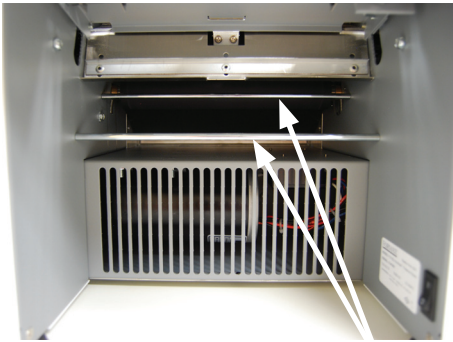
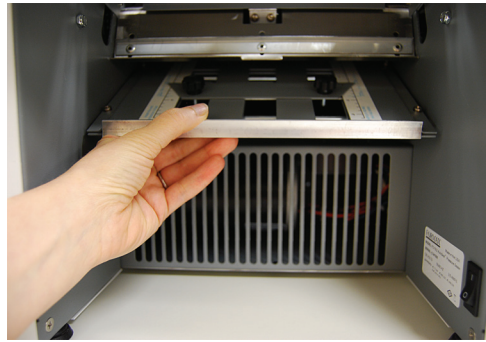

Figure 5a
Figure 5b
5. To reinstall the lower fold plate, slide the plate (with the thumbscrews facing up and throat toward inside of machine, figure 5b) until it rests on the two silver bars (figure 5a) and locks into place (figure 5c).